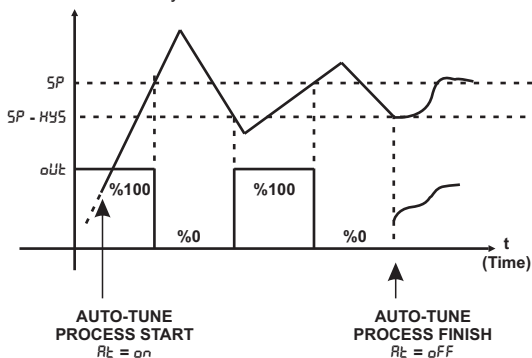

Figure 3.7.1.
- 2) Automatic PID tuning test hysteresis (see Figure 3.7.1.)